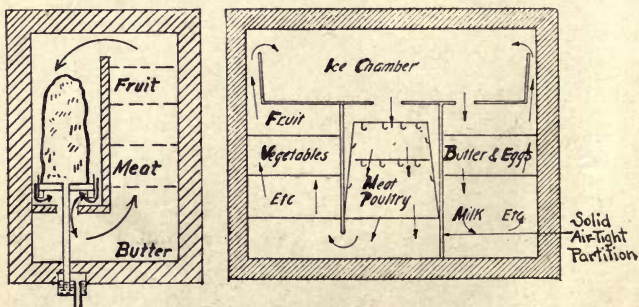

FIG. 33.—REFRIGERATORS IN SECTION
79. Refrigerator. In the refrigerator (Fig. 33) the ice is always placed near the top, so that the cold air in falling will force the warm air below up to the top, thereby bringing the cold air in contact with the food. The warm air, when cooled by the ice above, in turn falls.